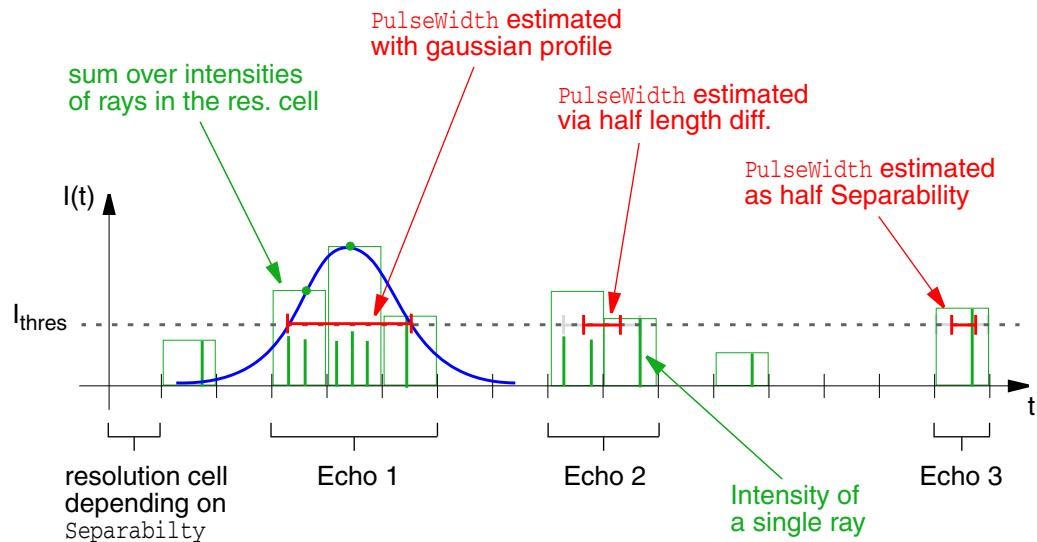

Figure 20.89: Processing rays associated to a single beam.
- If the accumulated intensity value of the first resolution cell is smaller than the intensity of one of the following resolution cells, the pulse width can be estimated by fitting a gaussian profile through the intensity value of the first cell and the max. intensity (see Echo 1 in Figure 20.89).
- In case the intensity maximum is in the first resolution cell or if there is only one resolution cell but with more than one ray inside, the pulse width is estimated via half length difference between first and last ray of this echo (see Echo 2 in Figure 20.89).
- If there is only one resolution cell with one ray inside the pulse width is set to half separability (see Echo 3 in Figure 20.89).
The closest three of the resulting echoes are passed on as output. Echoes with intensity lower than the detection threshold are omitted (see Figure 20.89).